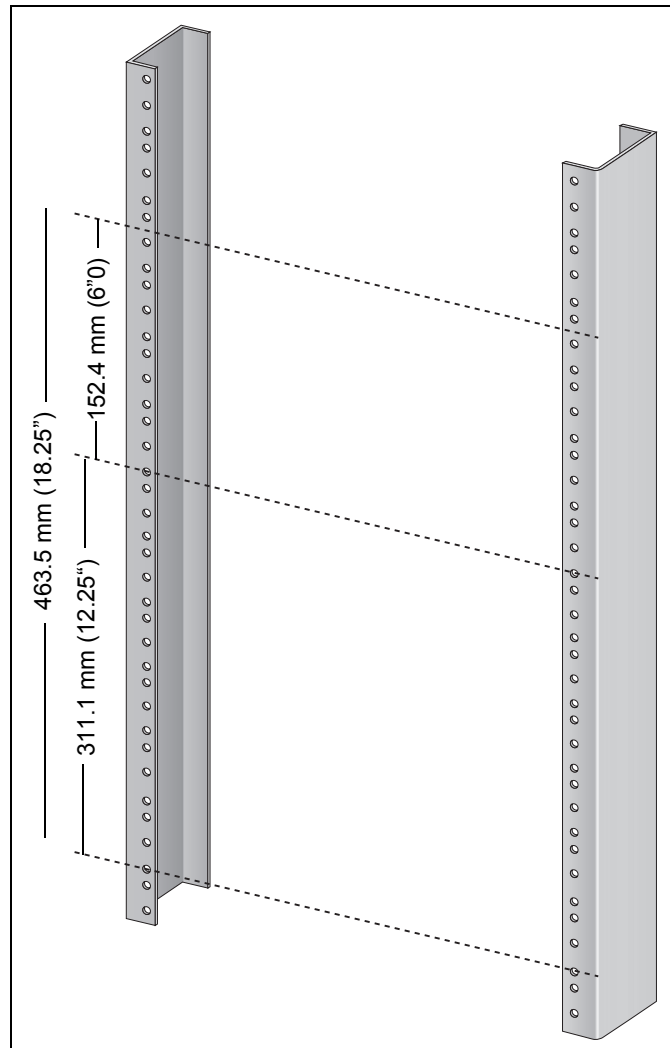

Figure 21. Reserving Vertical Rack Space
1. Reserve 311.1 mm (12.25") of vertical rack space for the installation of the AT-SBx3112 Chassis as shown in Figure 21.